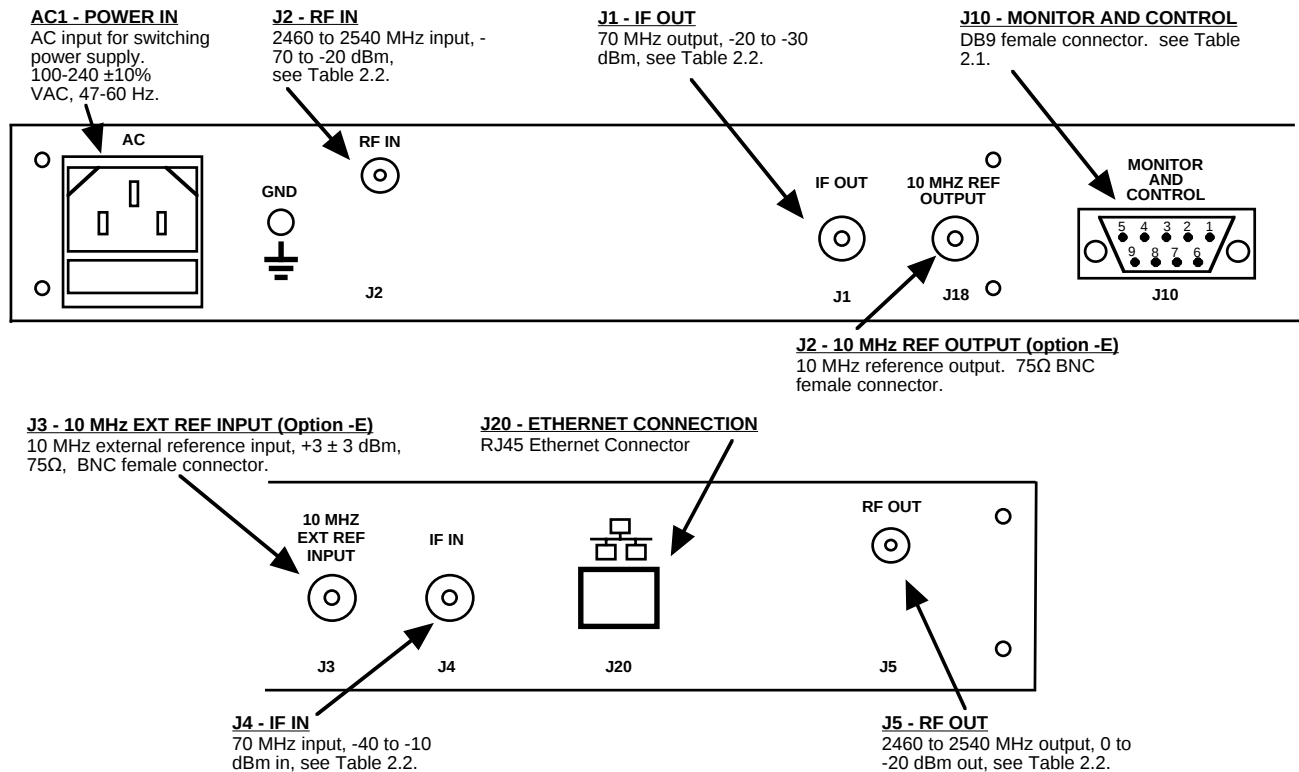

Figure 2.1 Model 2017-25-01 Rear Panel I/O's
Figure 2.1 shows the input and output connectors on the rear panel.
- 1.) Connect a -10 dBm to -40 dBm signal to IF In, J4 (Figure 2.1).
- 1.) Connect a -70 dBm to -20 dBm signal to RF In, J2 (Figure 2.1).